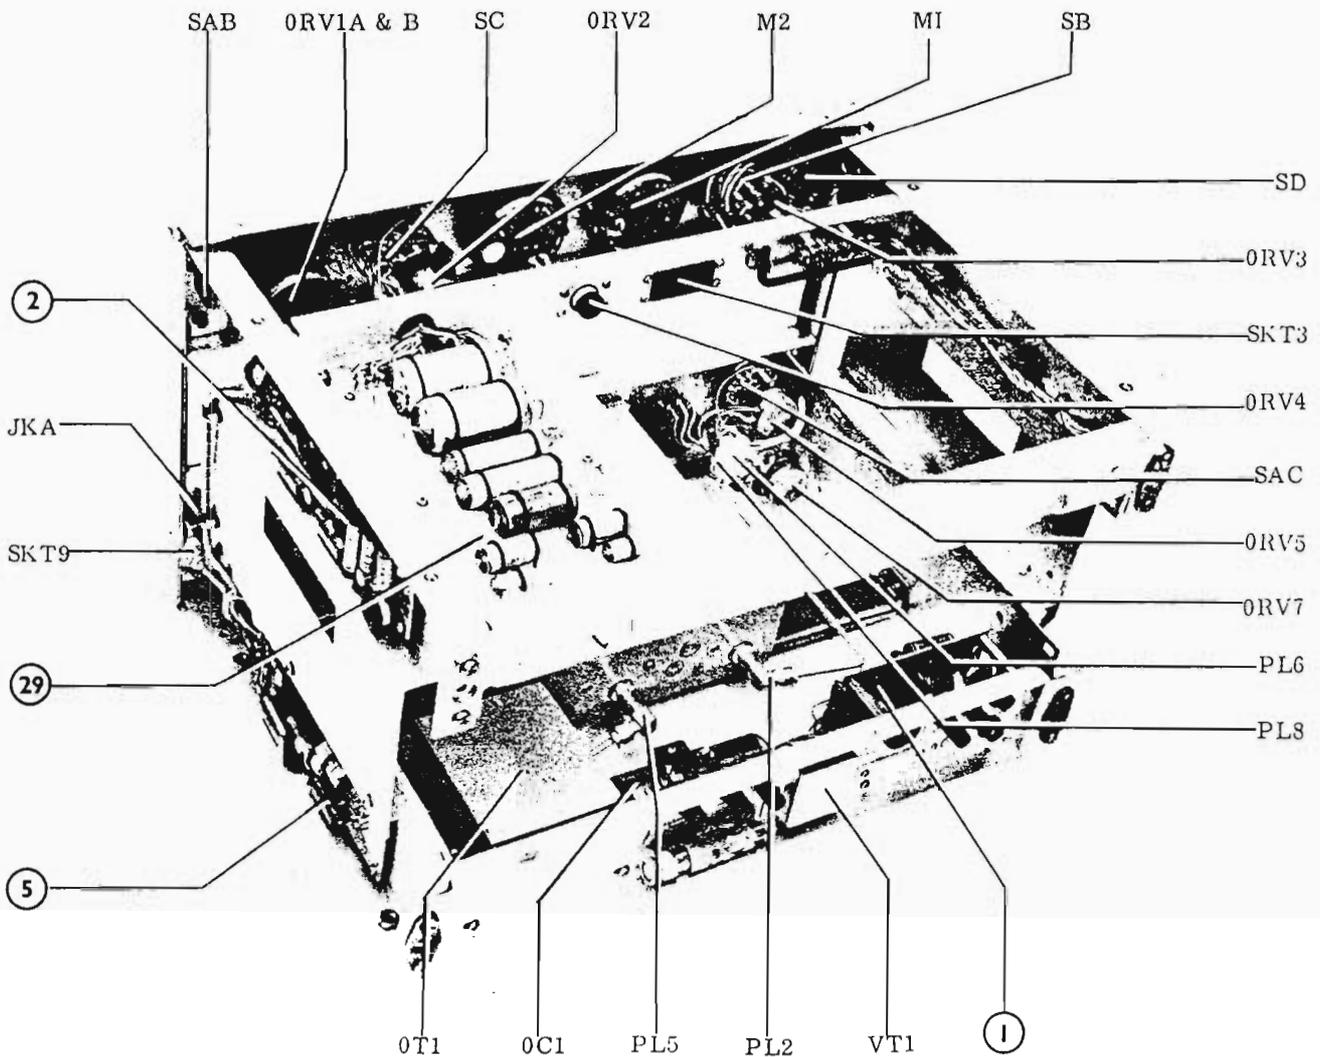
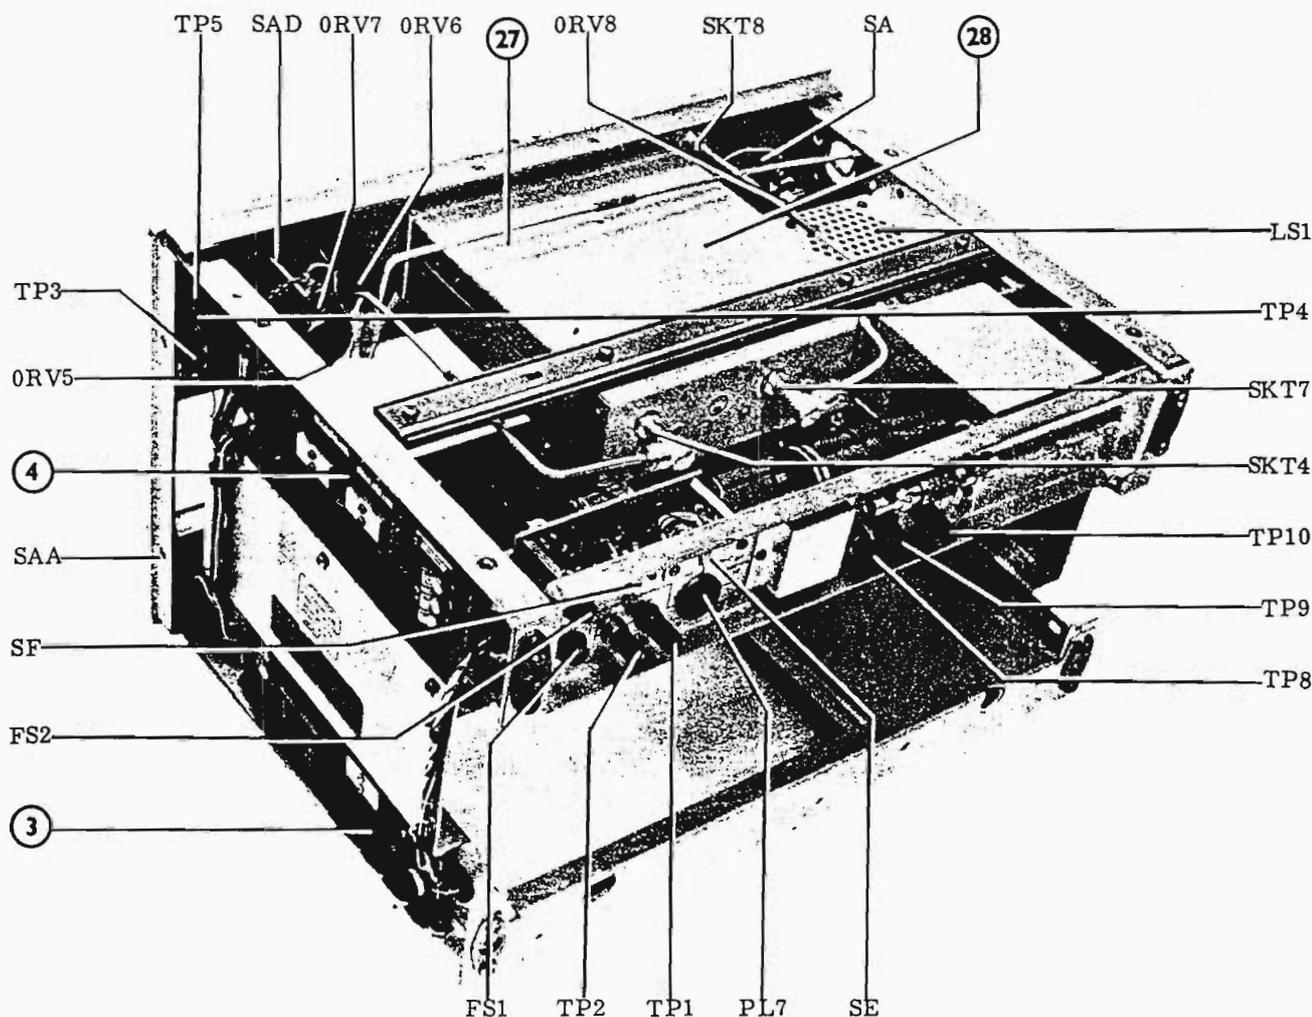

Fig. 4.1 Top view with r.f. unit removed
Fig. 4.2 Bottom view with r.f. unit removed
To remove the outer case of the instrument extract the four coin-slotted 2BA screws at the rear and slide the instrument forward out of the case. With the case off, the following boards are accessible, (1), (2), (3), (4), (5), (29); for the location of these boards and other components see Fig. 4.1 and Fig. 4.2.